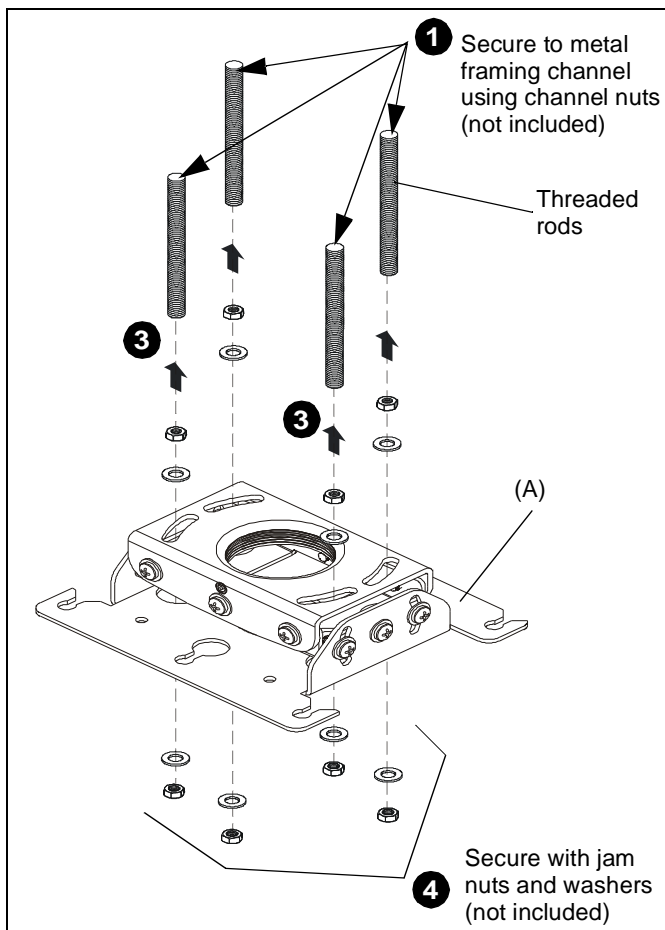

Figure 6
1. Secure one end of each of the four threaded rods (not included) to the structural member. (See Figure 6)
2. Install one 1/4-20 jam nut (not included) and one 1/4" washer (not included) onto each threaded rod. (See Figure 6)
3. Install RPE onto threaded rods, inserting the rods into the four slots on top of the RPE. (See Figure 6)
4. Secure the threaded rods to the RPE with one 1/4-20 jam nut (not included) and one 1/4" washer (not included) on each threaded rod. (See Figure 6)